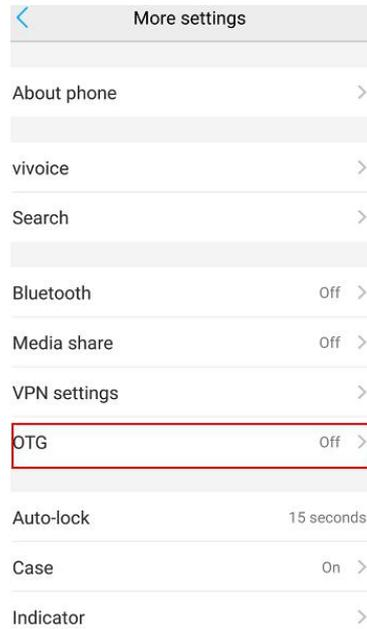

Figure 3-2-1
- 1) Open the OTG function from cellphone SETTINGS---SYSTEM---OTG(the default is Off thus it should be opened every time),see figure 3-2-1.